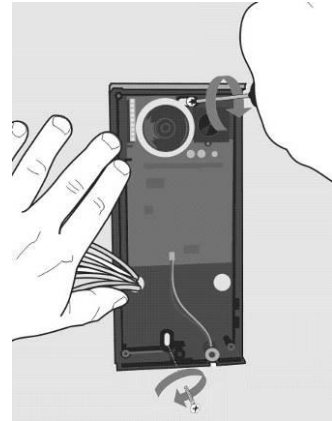

Figure 2.6 Wall Mounting
7. Fix 2N® Helios IP Vario on the wall with screws as shown in Figure 2.6. Carry the supply cables (Ethernet, lock, power cables) to the basic module box through one of the holes.